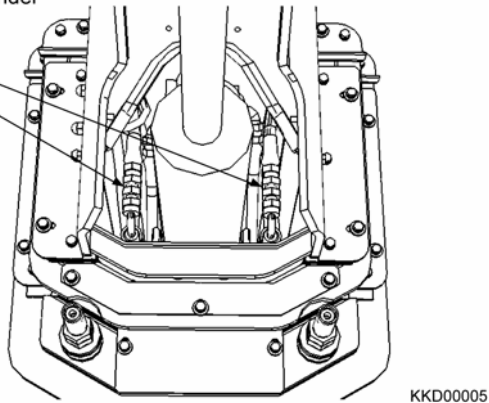

Fig. 2-34
- 9) Tag, disconnect the hoses for upper leveling cylinder and then plug the fittings on the hose ends. (Fig. 2-34)